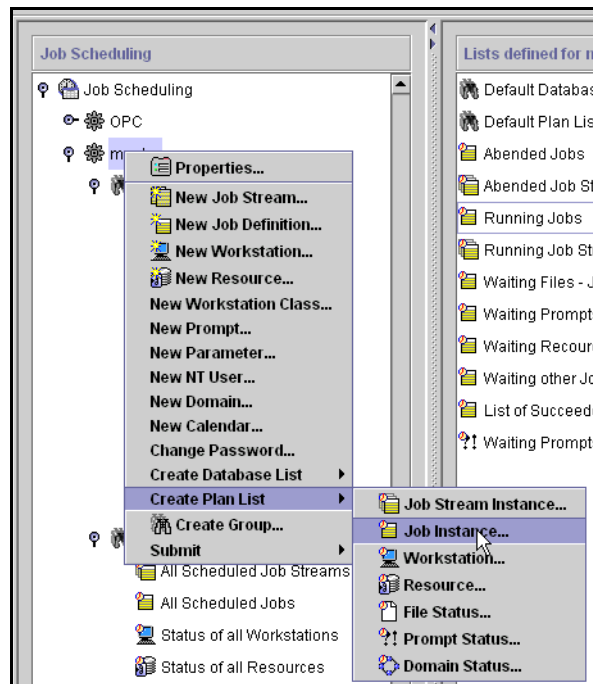

Figure 89. Create Plan List
1. Select **Create Plan List->Job Instances** from JSC as shown in Figure 89 on page 118.